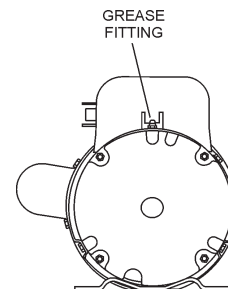

Figure 18. Grease Fittings Electric Motor
1. There are two grease (Figure 18) fittings at each end of the electric motor that will require lubrication. Lubricate these fittings about **every 16 months**.